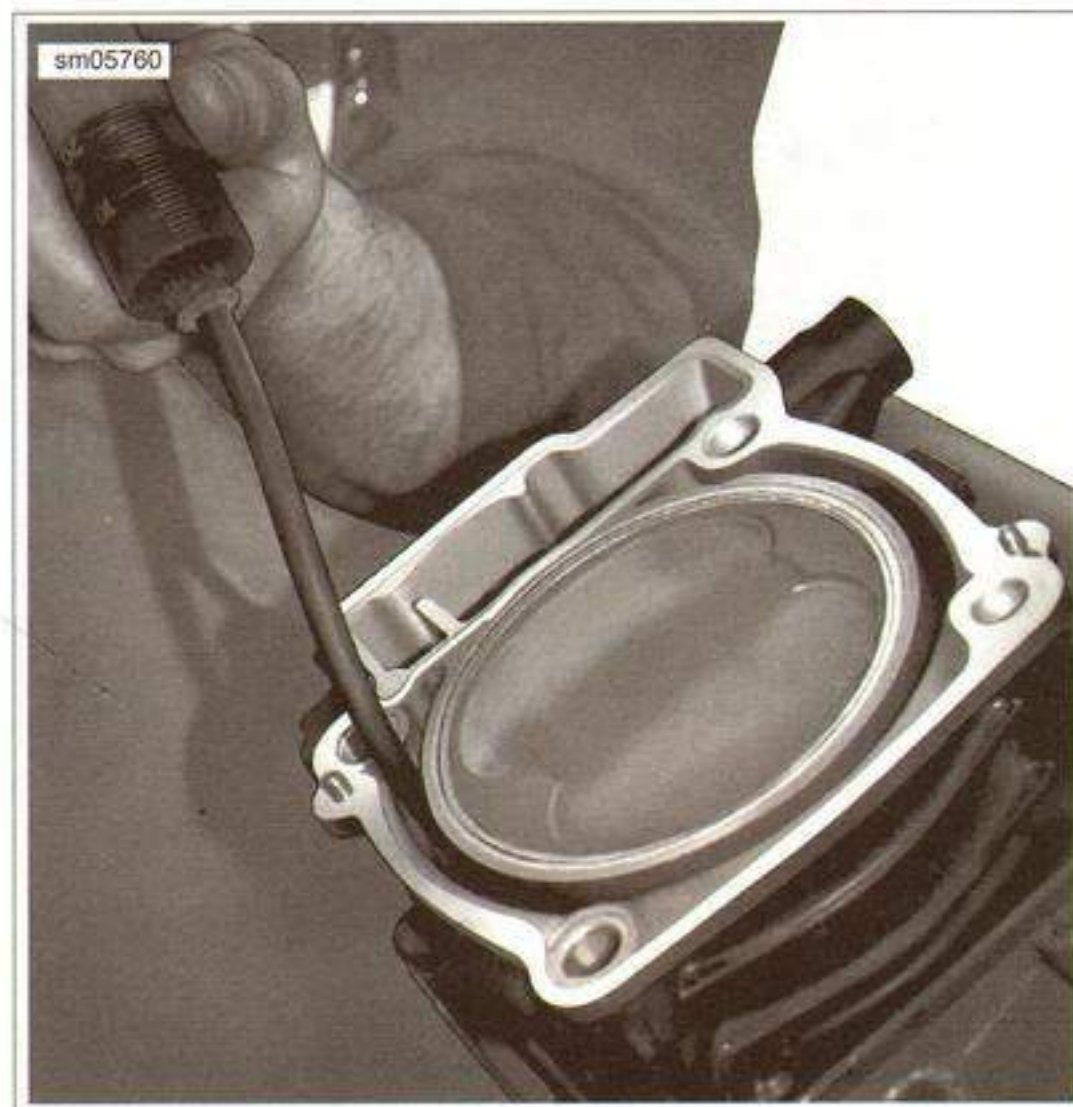

Figure 3-94. Coolant Suction from Cylinder Prior to Removal
4. See Figure 3-94. To prevent coolant from draining into crankcase, suction the coolant from left and right cylinder side (clutch side and alternator side) by using a syringe.